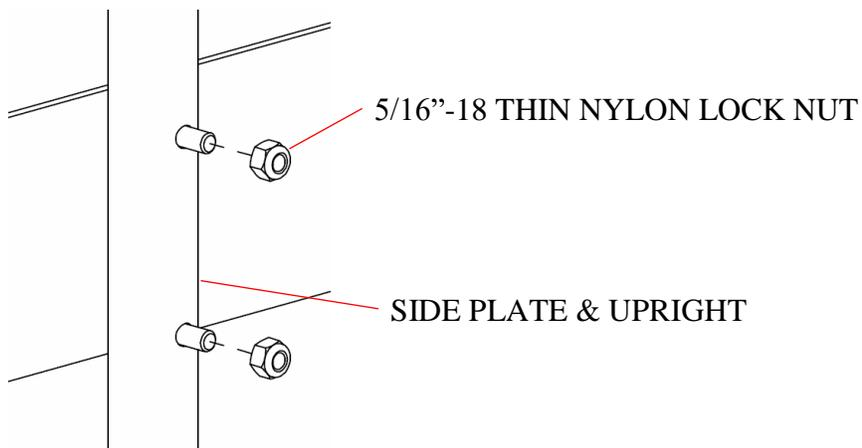

Figure 2
- 2) Using 5/16"-18 thin nylon lock nut. To secure side plates to the uprights onto eight places (as shown in Figure 2).